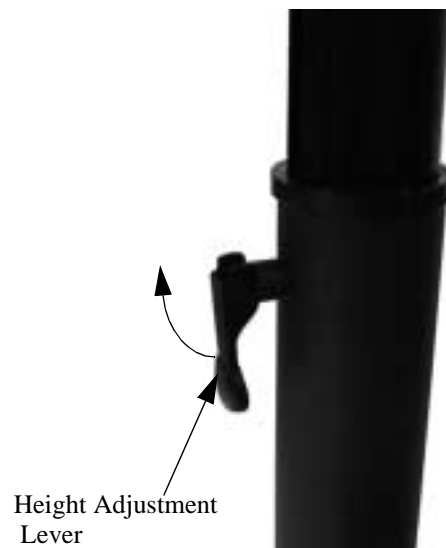

Figure 2.
2. Lift the height adjustment lever on the tube of the cart up to its latched position(see Figure 2).